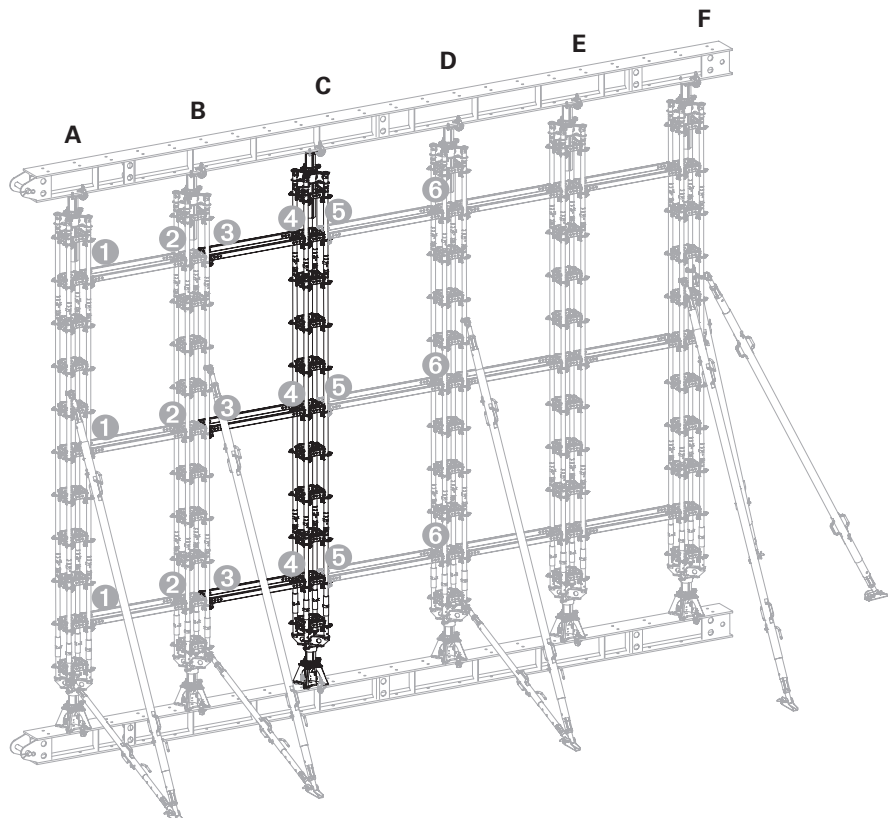

Fig. A7.03
7. Hammer wedges ③ into place.
10. Repeat steps 2-8 until the main beam frame is free of any load. (Fig. A7.03)